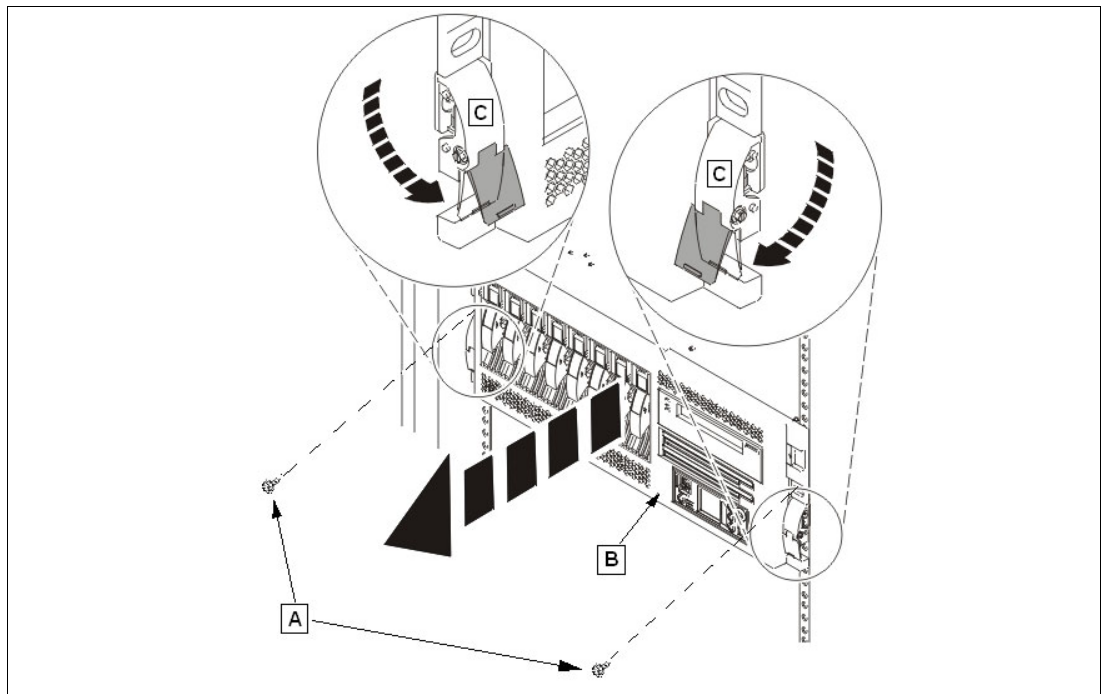

Figure 2-19 Pull the p5-550 or p5-550Q to the service position
2. Remove the two thumbscrews (A) that secure the system or expansion unit (B) to the rack as shown in the Figure 2-19.
3. Release the rack latches (C) on both the left and right sides as shown in the Figure 2-19.